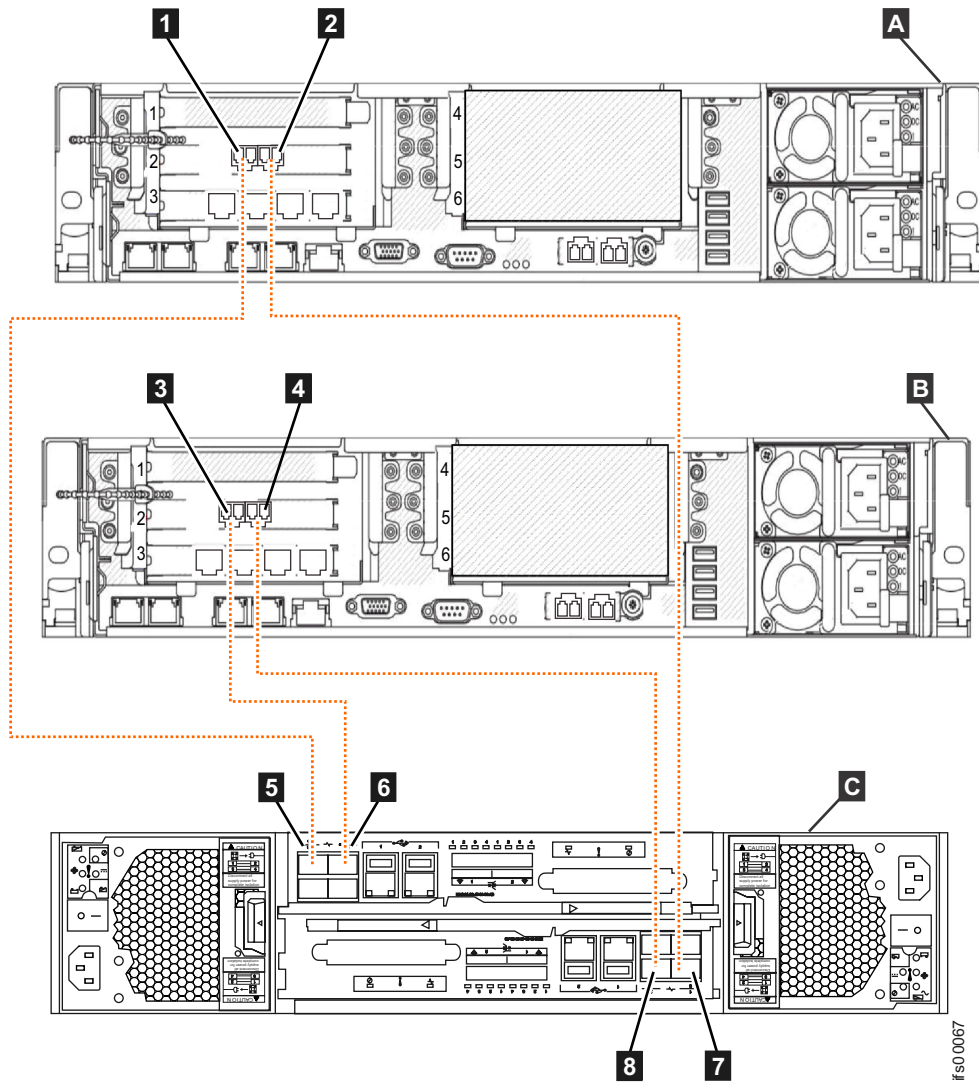
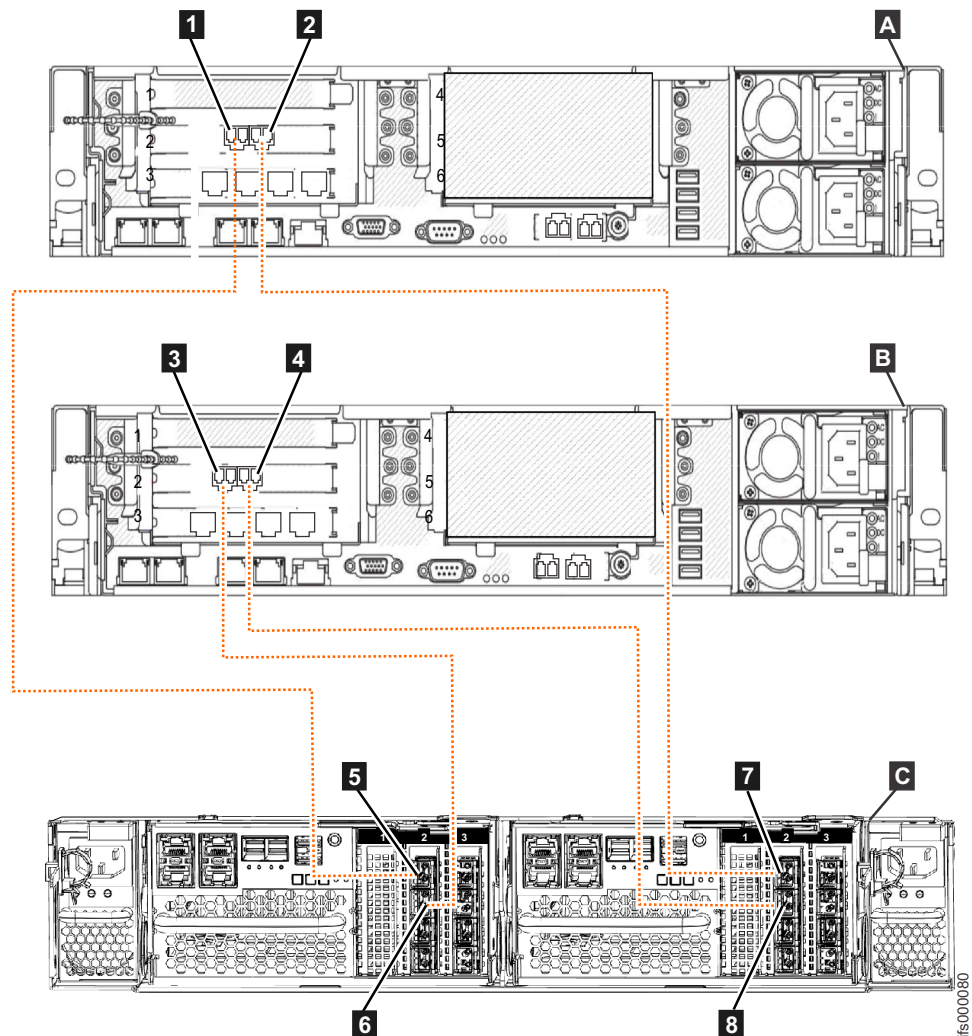

Figure 54. Connecting the file modules to the Storwize V7000 Gen1 control enclosure using Fibre Channel cables
Figure 55. Connecting the file modules to a Storwize V7000 Gen2 control enclosure that has a Fibre Channel interface card in PCI slot 2 of each node canister
- Before you continue, make sure that you have connected the Fibre Channel cabling as shown in Figure 54 on page 94 or Figure 55 on page 95 to ensure proper redundancy. Incorrect cabling may result in a loss of service during system maintenance procedures.